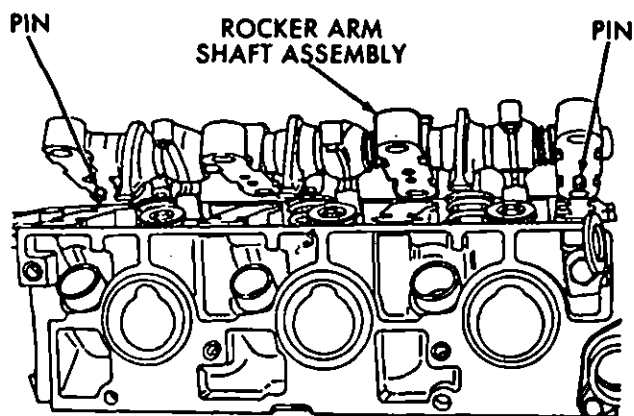

Fig. 11—Rocker Arm Shaft Assembly
(9) Install the rocker arm shaft. Note that the pins in the bottom of the front and rear pedestals index the assembly to the cylinder head (Fig. 11).
(10) Remove the 3 mm pin punches.